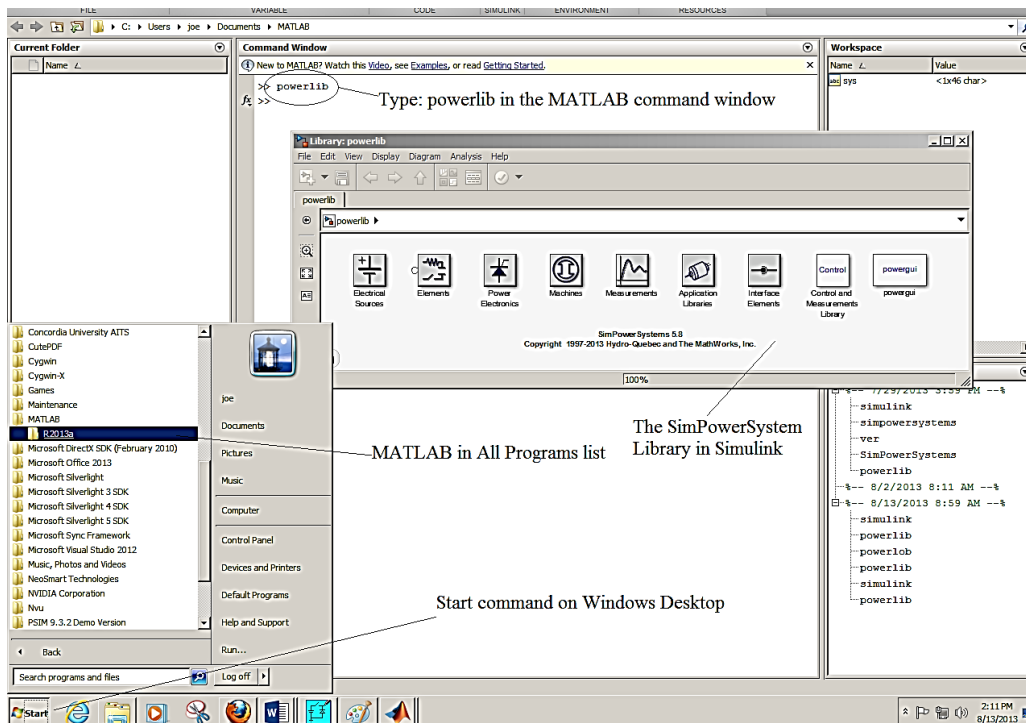

Figure 1. The opening display of Matlab Version 2009.
**Matlab Version 2009.** For version 2009, the Matlab display will appear as shown in Fig. 1. When the Matlab desktop opens, at the `>>` prompt in the command window type: **powerlib**.